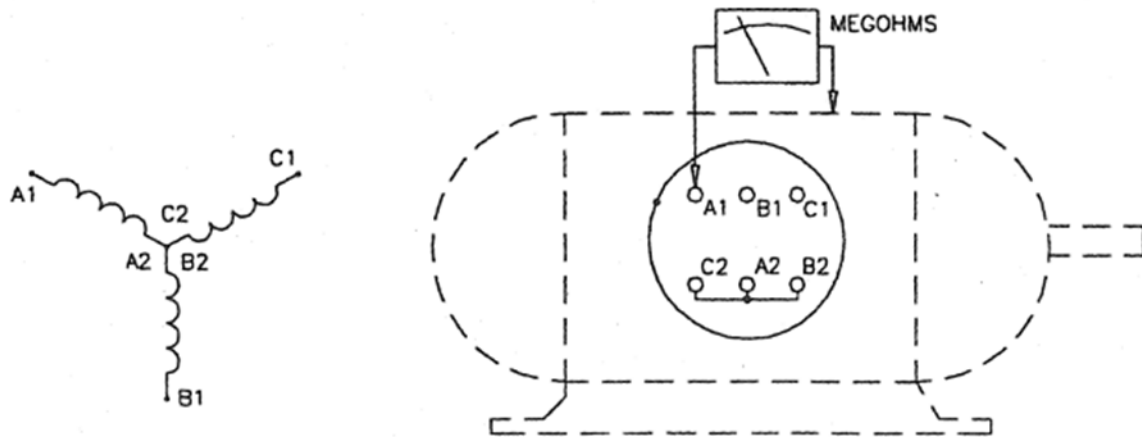

Figure 2 - Insulation test on a six terminal three phase motor
11. If the motor has six line terminals and it is connected in either star or delta it is only necessary to test for insulation resistance between one of the terminals and the motor frame. If the star or delta links have been removed it is necessary to test between EACH phase winding and the motor frame (i.e. three separate tests are required) as shown in Figure 2.